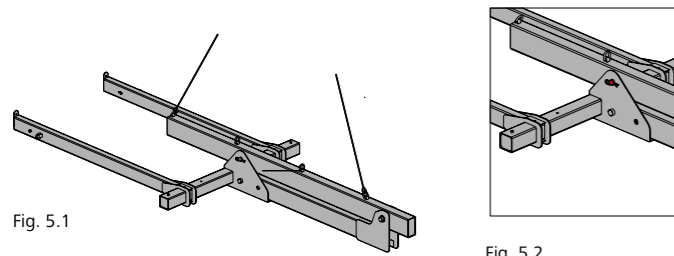

Fig. 5.1
- Attach the transport spreader to the crane using the two outer attachment points (A) and (D) (Fig. 5.1).